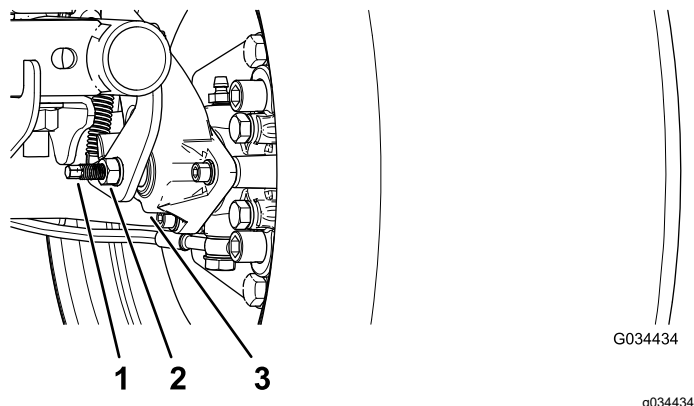

Figure 51
3. Using 2 wrenches, hold the adjusting post on the caliper in place with 1 wrench, and loosen the jam nut 1/4 turn with the other wrench (Figure 51).
4. While holding the adjusting post and the jam nut in place, turn the adjusting post in to tighten (Figure 51).
5. While holding the adjusting post and the jam nut in place, back off 1/4 turn (Figure 51).
6. While holding the adjusting post and the jam nut in place, tighten the jam nut (Figure 51).